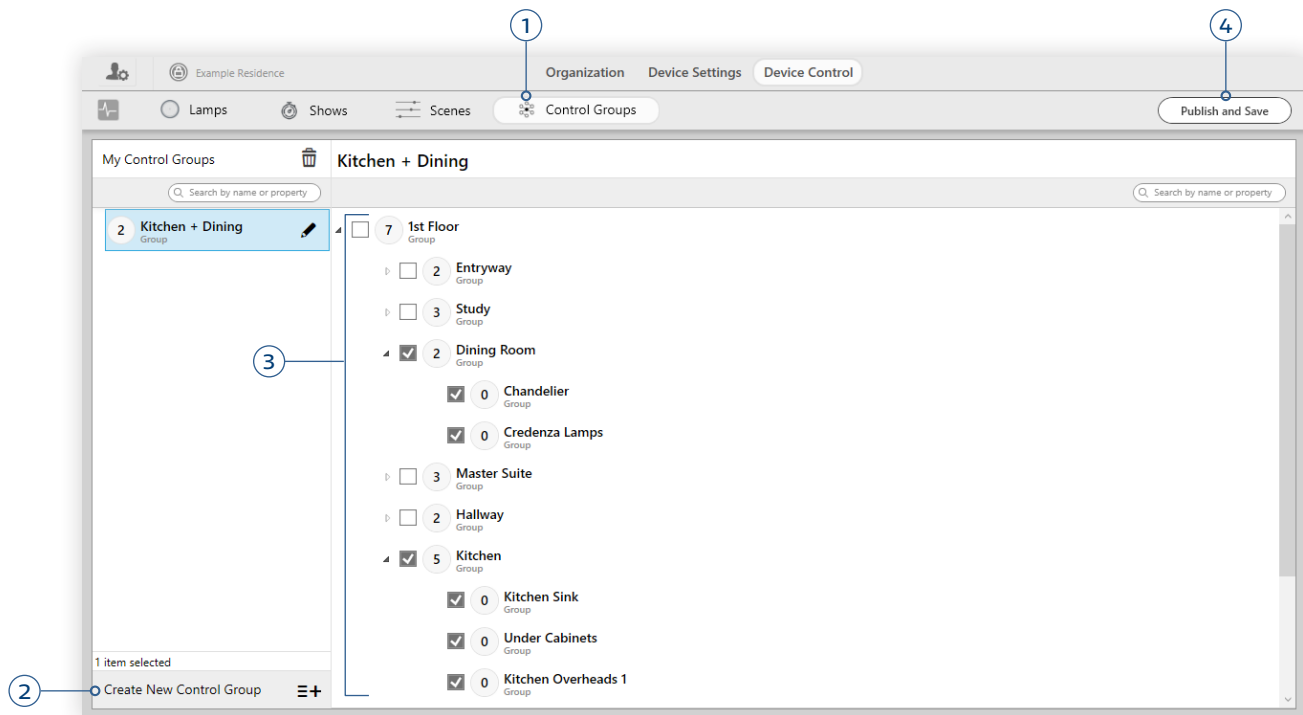

fig. 165
- 2 Click **Create New Control Group**. (See fig. 165, next page.)